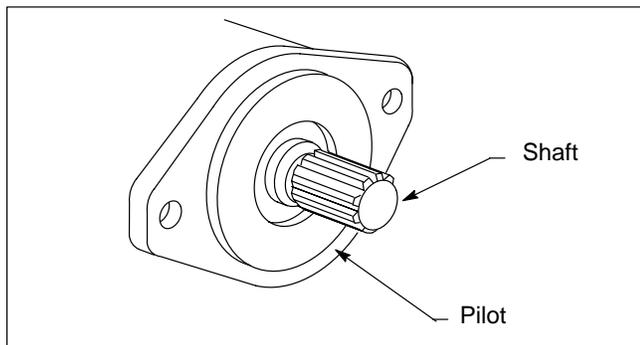

Figure 4.
1. **Direct Drives** – Care must be exercised when mounting the pump so that the pilot diameter fits properly into the mating section of the prime mover (see Figure 4). The pilot should not be forced into the mating part under any condition. Care should be exercised in tightening all flange mounting screws to prevent misalignment of shaft connections.